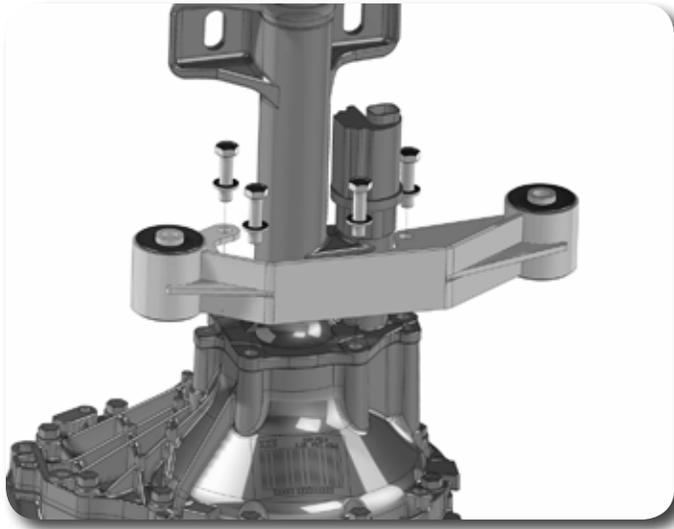

Figure 24
35. Locate the center differential bracket and 10mm x 40mm bolts and washers. Remove the 4 housing bolts and install the differential bracket with the provided hardware using some loctite. Torque bolts to 33 ft-lbs. Take care not to break the gasket seal. Figure 24.